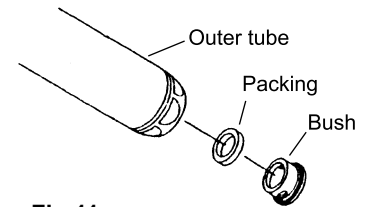

Fig.11
- 10) Pulling out a bush inside the adapter by hand, remove packing held further inside and check it, by washing, for any wear or scars. (Fig.11)